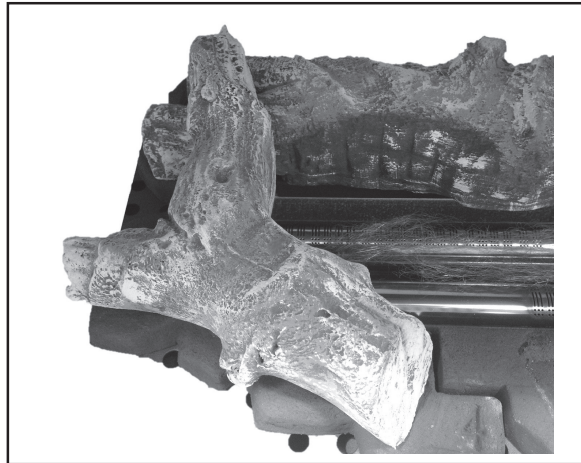

Fig. 6
6. Place log '3' on to the labeled location in the LHS base ceramic as shown in fig. 6, resting the back of the log onto Log '1'.